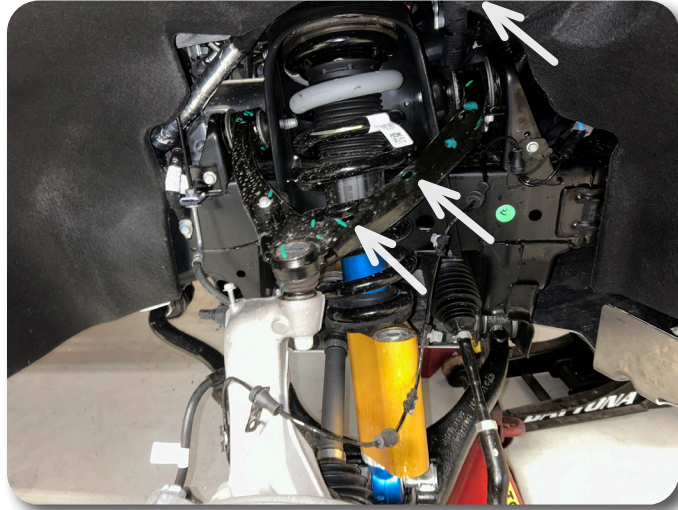

Figure 3
5. Disconnect the three ABS wire mount clips from the upper control arm completely in order to gain additional slack to remove the strut assembly. The ABS wire will need to remount to these wire mount clips. **Figure 3**